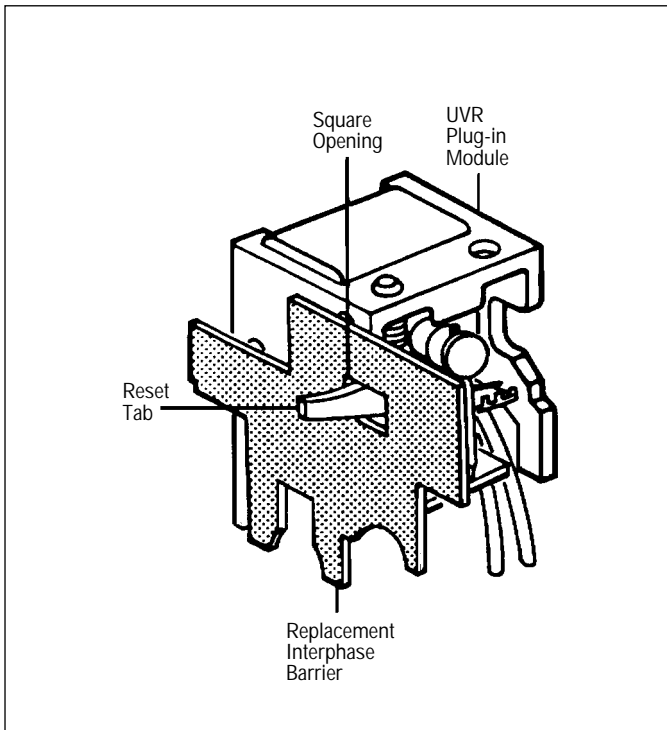

Figure 2-6 UVR Interphase Barrier Installation
- e. Put tip of UVR reset tab through square opening in replacement interphase barrier. (See Figure 2-6.)